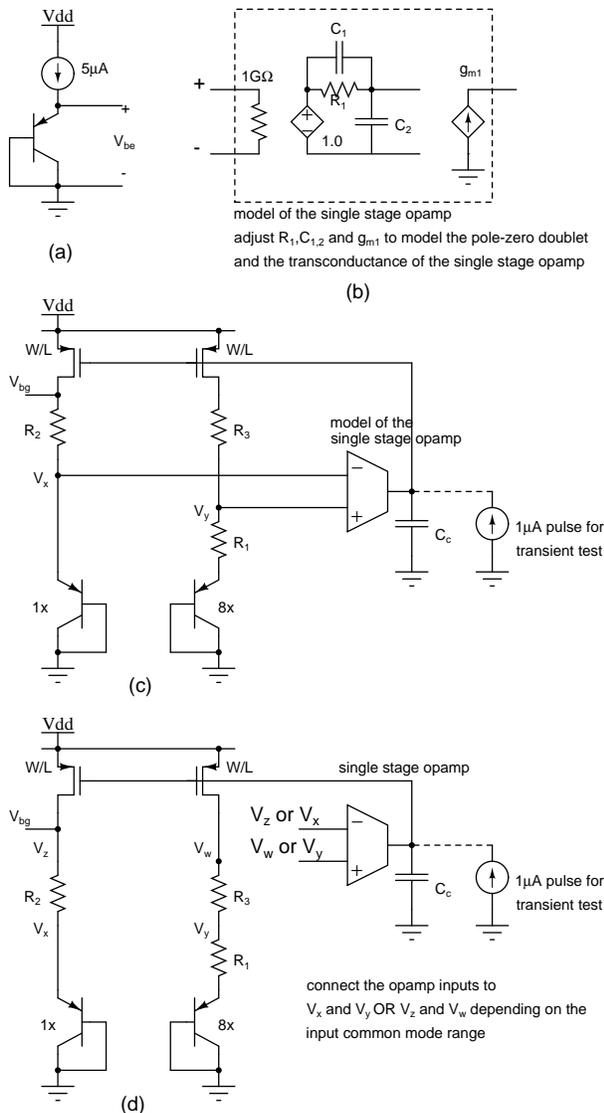

Figure 2: Bandgap reference
2. **Bandgap reference:** Bias a 1x sized diode connected PNP¹ at $5\mu\text{A}$ as shown in Fig. 2(a) and sweep the temperature from 0 to 100°C . Determine dV_{BE}/dT at 27°C .
Design the bandgap shown in Fig. 2(c). Choose R_1 for a quiescent current of $5\mu\text{A}$ and R_2 to get zero temperature coefficient at V_{bg} . Choose $R_3 = R_2$. What is the role of R_3 ? Simulate the bandgap reference with the model of a single stage opamp assuming that the single stage opamp is made like the first stage of the previous problem. (Fig. 2(b)-model the gm, and the pole zero doublet). Choose C_c for ringing $\leq 10\%$. Test the bandgap reference by sweeping the temperature from 0 to 100°C and plot V_{bg} . Test the transient response by applying a $1\mu\text{A}$ pulse to the output of the opamp. Adjust the values of $R_1, R_2, R_3 (= R_2)$ if necessary to get zero TC at 27°C .
Modify the circuit as in Fig. 2(d). How should $V_x, V_y,$ and V_{bg} change? What is the purpose of this modification? Resimulate with the opamp model as before and test the temperature sensitivity, transient response and the loop gain.
Use the model in Fig. 2(b) for the single stage opamp. Use a $50 \mu A$ quiescent current in M_1 . Adjust the width (with minimum length) of M_1 for a dropout of 300 mV with a 50 mA current. You can use a 1.2V voltage source in place of the bandgap reference. Compensate the loop using a load capacitor C_L for a phase margin of 45° at $I_L = 0$ and $I_L = 50 \text{ mA}$ and choose the higher one. Do the following (except the last one) for two cases ($I_L = 0$ and $I_L = 50 \text{ mA}$)—you can use a current source for the load):